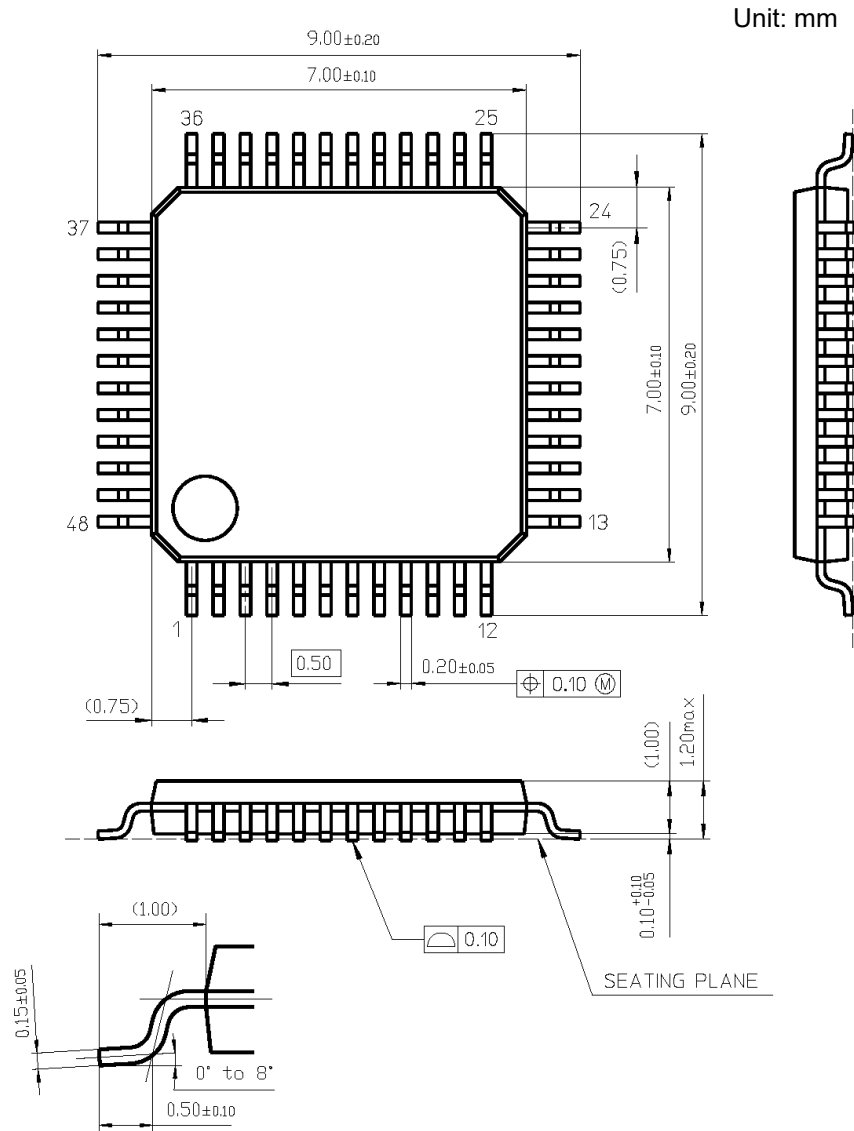

Figure 1.7-4 Package Dimension of 64 pins 7mm * 7mm 0.5mm pitch
- 48 pins 7mm * 7mm 0.5mm pitch Figure 1.7-4